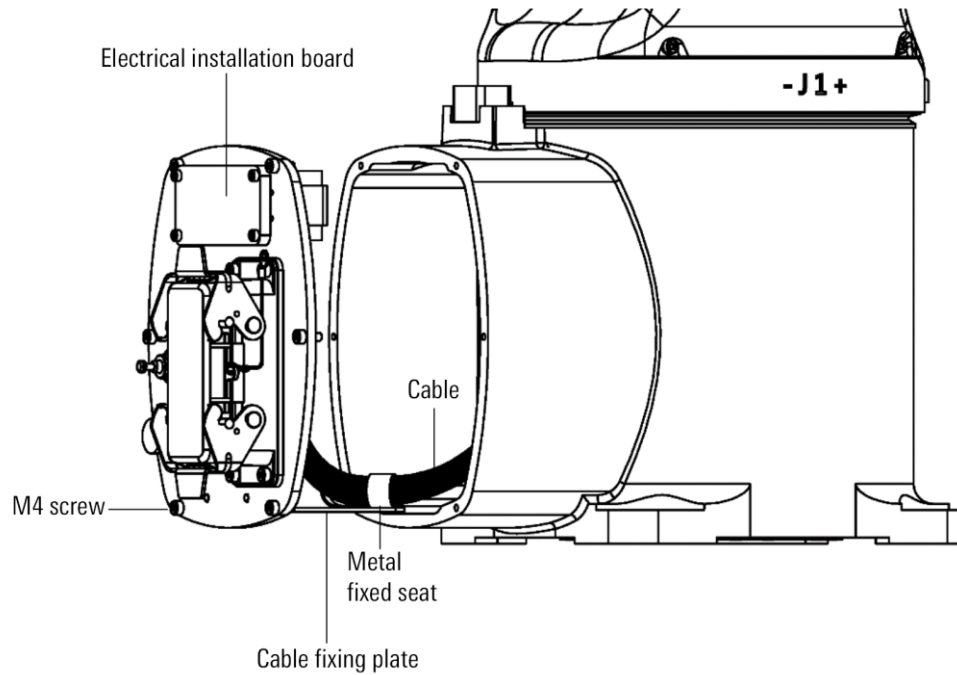

Figure 13-1 Overhaul of cables inside the base
- Remove the electrical installation plate, as shown in Figure 13-1, and pull out the cables inside the base.